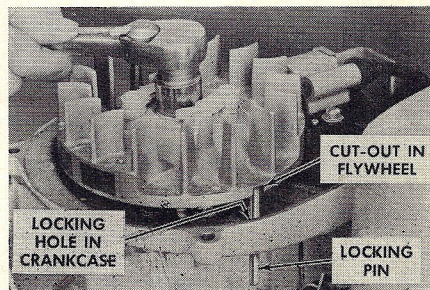

Fig. MC104 — View showing method of locking engine flywheel to remove flywheel retaining nut.
**CLUTCH.** Refer to Fig. MC107 for exploded view of the drive clutch assembly used on the MAC 15 chain saw. To remove the clutch assembly, pry the clutch cover (12) off of the drum (9), lock the flywheel as shown in Fig. MC104, and turn rotor (13—Fig. MC107) clockwise to remove. Clutch drum and sprocket assembly (9) is equipped with a renewable Oillite bushing (16). When reassembling, be sure that spring (15) and washer (14) are placed in order shown.